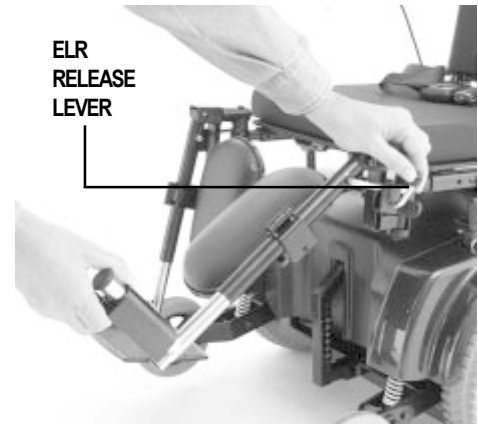

Figure 24. Elevating Leg Rests
1. Press the ELR release lever. See figure 24.